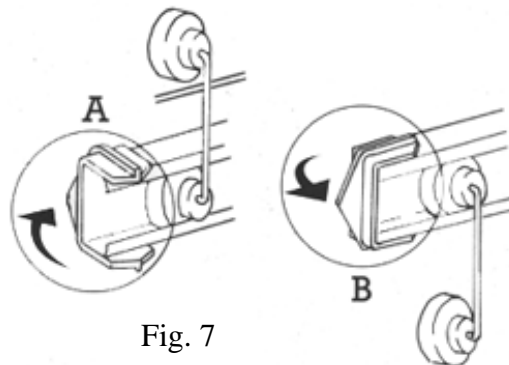

Fig. 7
- The basket should be adjusted to the **HIGH** position when large plates are loaded in the lower basket (see Fig.7). To adjust the height of the basket, rotate the wheel stop on each runner through 90° to open position (A) allowing removal of the basket. Replace the basket in the chosen position and rotate the wheel stops back to the original position (B). Make sure that the basket is always in a level position.